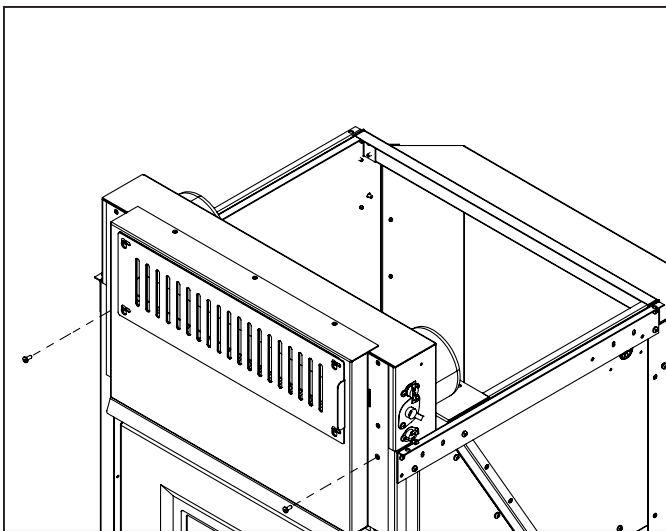

Figure 9: Front HDK assembly install.
9. Install Front HDK assembly. Assembly should slide downward into place and is secured using two #8 sheet metal screws. Screws thread into top holes where front original grill was mounted, figure 9